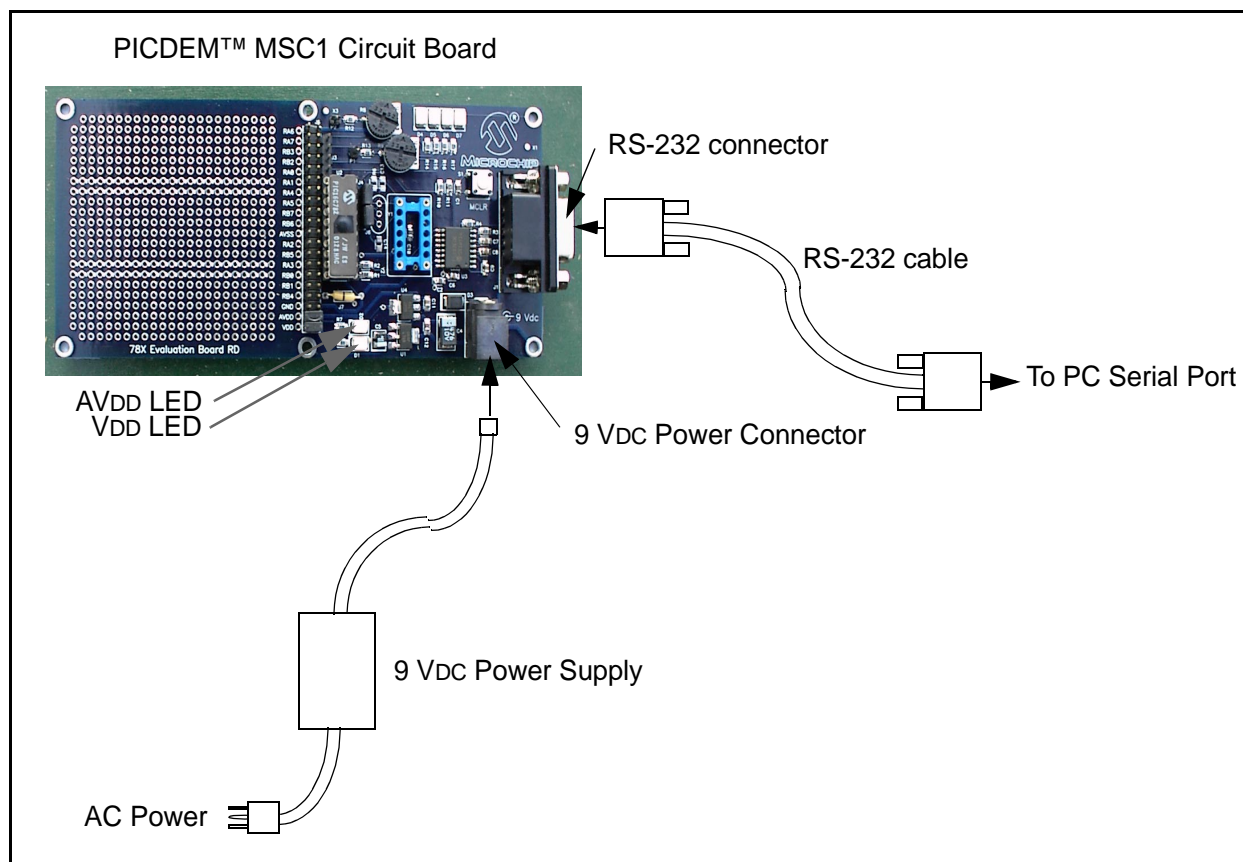

Figure 1.1: Installing the Hardware
1. Connect the PICDEM™ MSC1 circuit board to the 9 Vdc Power Supply as shown in the Figure 1.1 and plug in the AC connector for the 9 Vdc Power Supply.
3. Connect the other end of the RS-232 cable to the PICDEM™ MSC1 circuit board as shown in Figure 1.1. This completes the hardware installation.